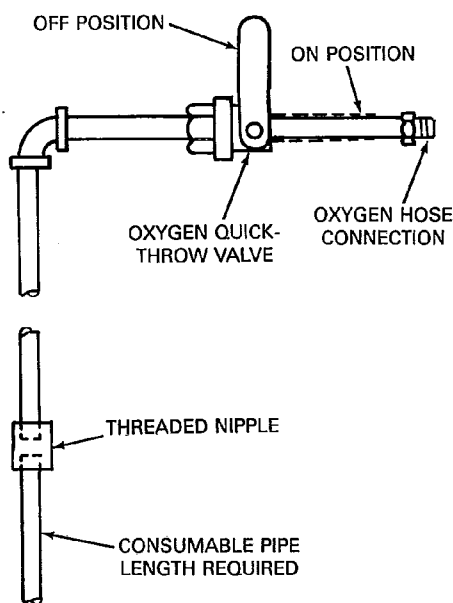

Figure 14—Oxygen Lance
6.4 Oxygen Lancing. Lancing is a special piercing technique used to produce a hole through very thick plate or billets. The oxygen lance is made from a length of small diameter black iron pipe, which is connected with fittings and nipples to a quick throw valve (see Figure 14). Oxygen is fed through the oxygen hose with a regulated pressure of 80 to 90 psig (552 to 621 kPa).